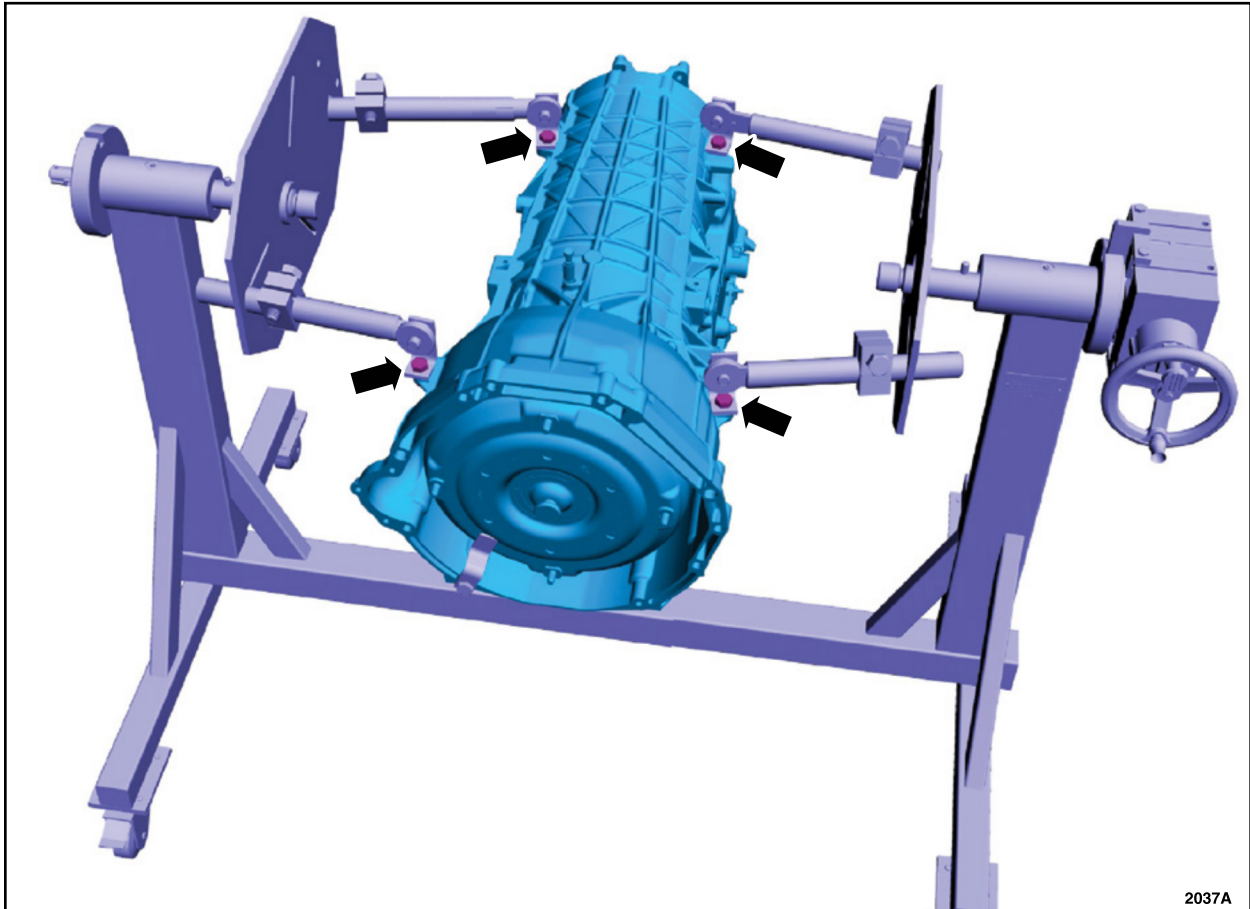

FIGURE 1
2. Place the transmission on a mounting stand. See Figure 1.